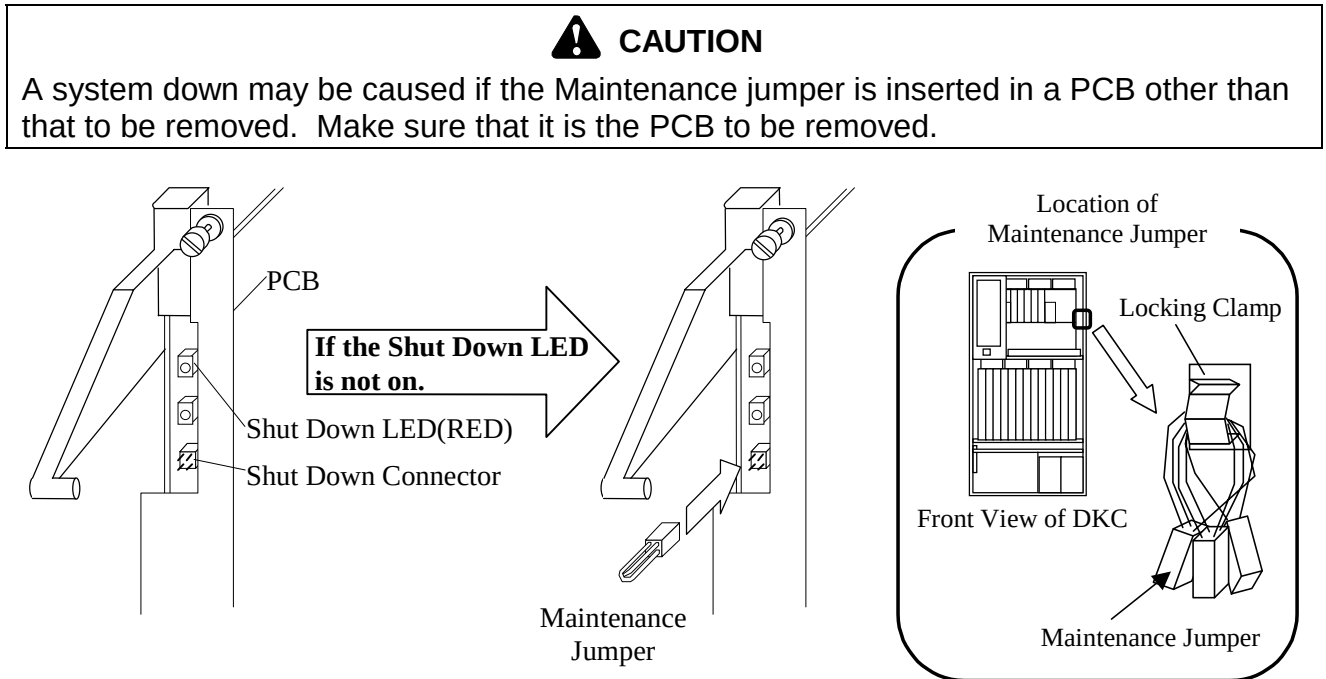

Fig. 4.4.1-1 Shut Down LED
- a. Confirm that Shut Down LED is on.(Fig. 4.4.1-1). If the LED is not on, connect the Maintenance Jumper to the Shut Down Connector.
- Remove the brackets and cable clamp referring to Fig 4.4.1-2.
- Disconnect the optical fibre cables and remove the holder referring to Fig 4.4.1-3.